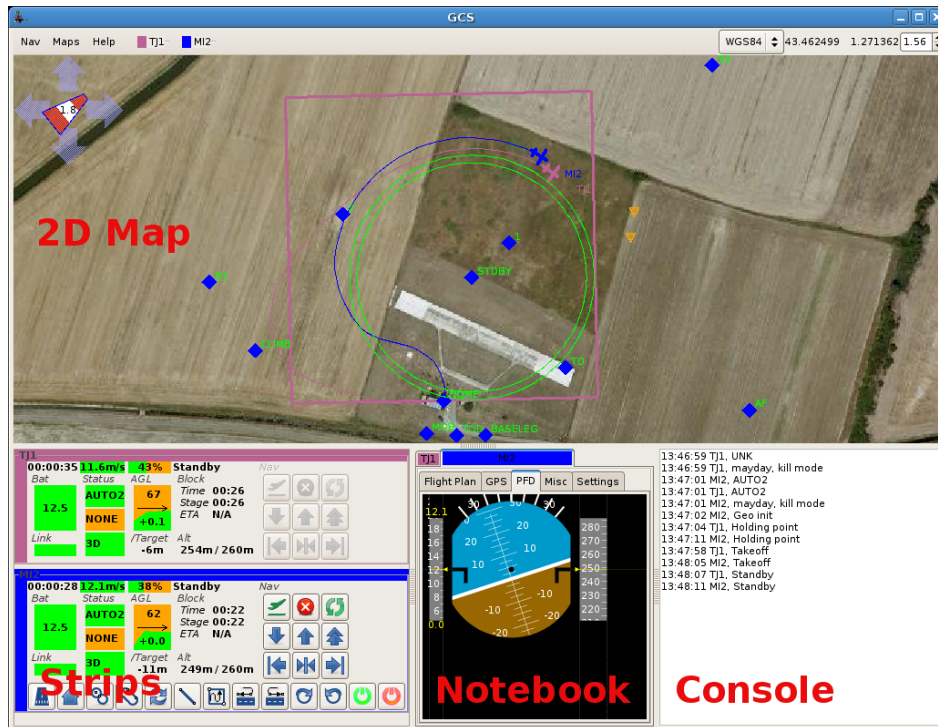

Figure 1.2: GCS
5. The GCS window (figure 1.2) displays the status of the aircraft. Center the aircraft in the map with the **Center A/C** entry from the aircraft menu. Adjust the window to the displayed elements (aircraft and waypoints) with **Fit to window** from the **Nav** menu (or with the `f` key). Zoom with the mouse wheel, **PageUp**, **PageDown** keys or from the spin button (top right). Pan with the arrow keys or with purple arrows (top left). A detailed description of the GCS is given in section 2.2.